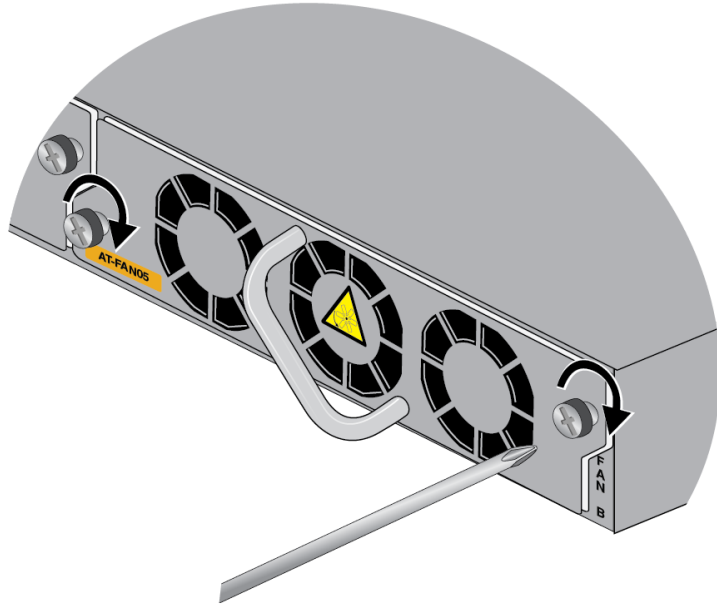

Figure 145. Tightening the Two Captive Screws on the FAN05 Module
4. Tighten the two screws on the module to secure it to the switch. Refer to Figure 145.